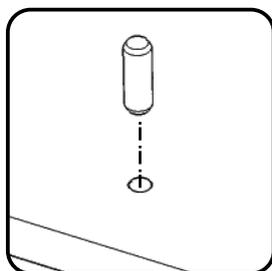

Figure 3
Insert Dowels into pre-drilled holes in Base (B). (See Figure 3)